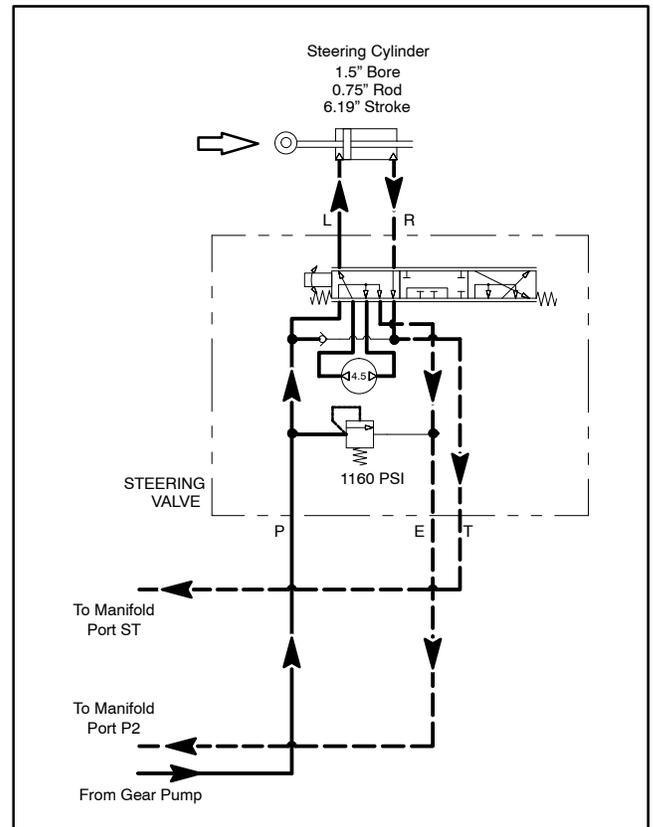

Figure 10
When a left turn is made with the engine running, the turning of the steering wheel positions the spool valve in the steering valve so that flow goes through the top of the spool (Fig. 10). Flow entering the steering valve at Port (P) goes through the spool and is routed to two places. First, most of the flow through the valve is by-passed out steering valve port (E) and is available for raising and lowering the cutting units and for the traction charge circuit. Second, the remainder of the flow is drawn through the steering valve rotary meter and out steering valve port (L). Pressure moves the steering cylinder piston to retract the cylinder for a left turn. The rotary meter ensures that the oil flow to the cylinder is proportional to the amount of turning on the steering wheel. Fluid leaving the cylinder flows back through the spool valve then out steering valve port (T) and then to the traction charge circuit.